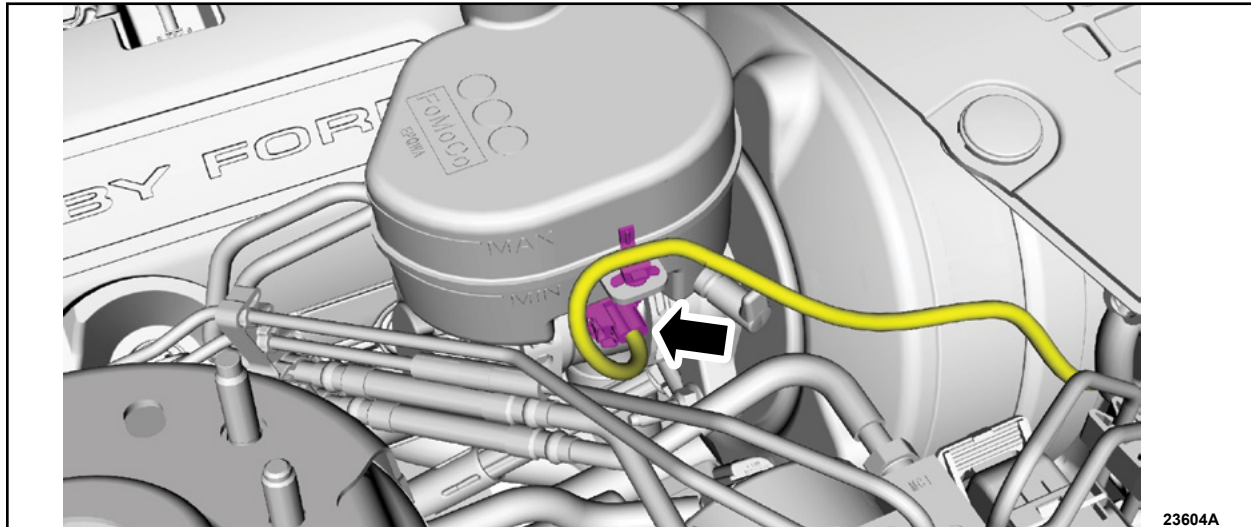

FIGURE 5
15. Disconnect the brake fluid level sensor electrical connector. See Figure 5.